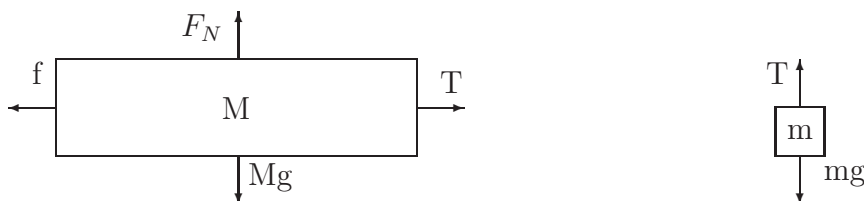

Figure 5.2: Free-body diagrams.
Figure 5.2 is a free-body diagram of the sliding block, showing the force  $T$  exerted by the string, the weight  $Mg$  of the block, the normal force  $F_N$  of the table acting on the block, and the frictional force  $f = \mu_k F_N$ .
8. Finally, get an estimate of the STATIC coefficient of friction  $\mu_s$  using the materials provided. According to the free body diagram Fig. 5.2,  $f = \mu_s Mg = mg$  as long as  $M$  hasn't begun to move. Find the largest  $m$  for which  $M$  remains at rest, and use it to compute  $\mu_s$ . (Note: it is easiest to begin with too much mass on the block and remove it gradually until motion begins.)